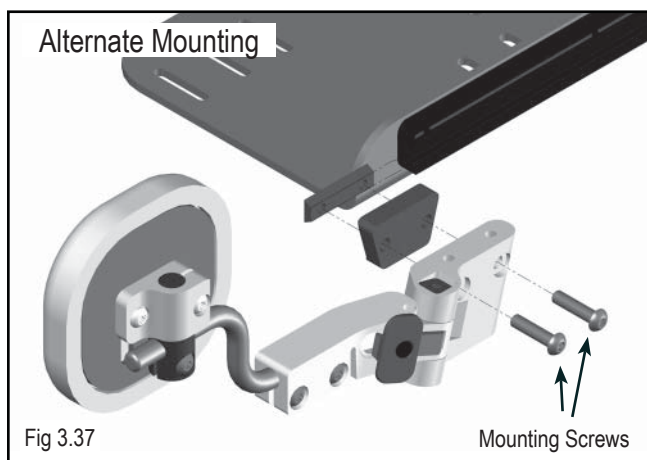

Fig 3.37
- Mount and Adjust Lateral Knee Supports using the two mounting screws (Fig 3.37 & Fig 3.38).